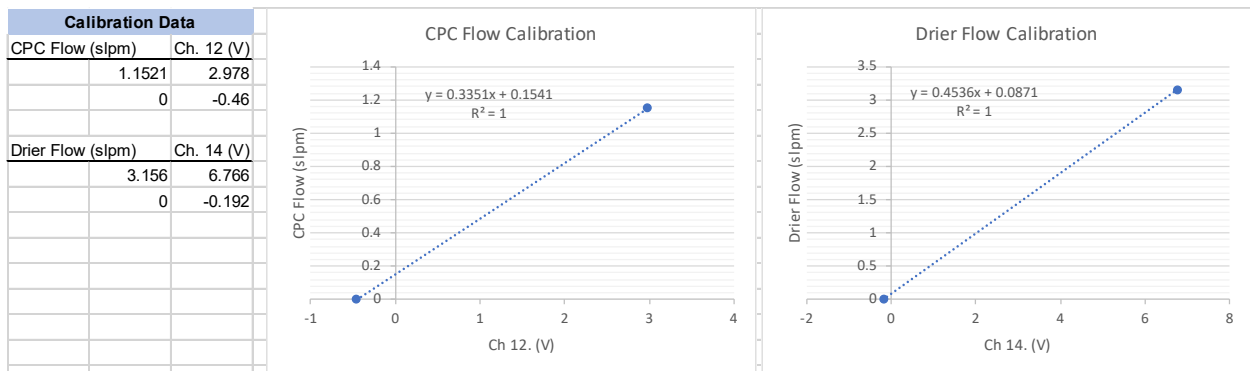

Figure C9: An example calibration for a CPC instrument flow and a CN box drier flow from a site using Brooks mass flow meters in the CN box.
- If you have *Brooks mass flow meters* (black and silver, ~5 inch tall, 1 inch wide, 3 inch deep, see image on right) then you can proceed with the calibrations without changing anything in the configuration file. Your final calibrations will be based on the measured flows, from the flow calibration device, and the voltage reported by the MFM, from the μ MAC or CR1000 instrument window (under the 'Raw (V)' column).
6. Record the flow measured by the flow calibration device (slpm) and either the voltage or flow (depending on the type of MFM) reported by the "CPC flow" MFM (variable Q_Q71 on channel #12 in **Fig. C8**). Do this for when the flow is on and then turn the flow off and record those values. This will give you a two-point calibration for the flow (see **Fig. C9**).
9. Make a plot of the flow from your flow calibration device (true flow in slpm) on the y-axis and either the voltage or flow from the MFM (depending on the type of MFM) on the x-axis. An example calibration is shown in **Fig. C9**.